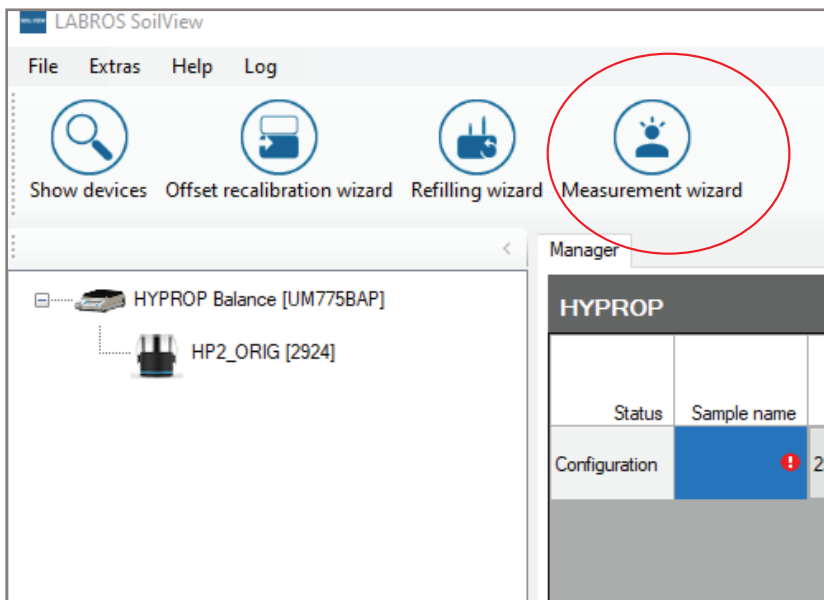

Figure 54 Measurement Wizard icon
1. Open the Wizard by clicking on the Measurement Wizard icon (Figure 54).